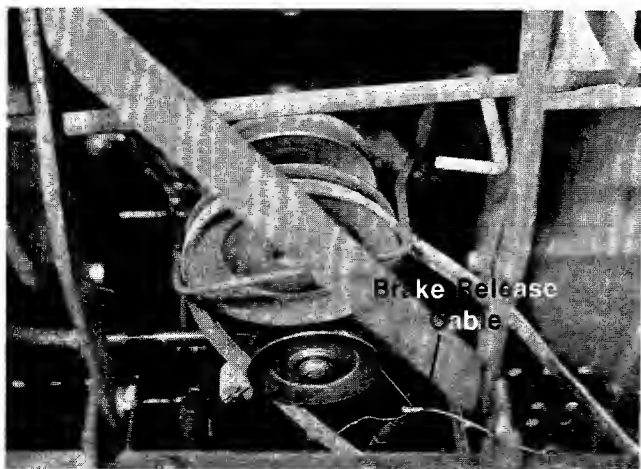

FIGURE 9.
11. Place the deck belt around the engine pulley and idler. (See figure 9.)